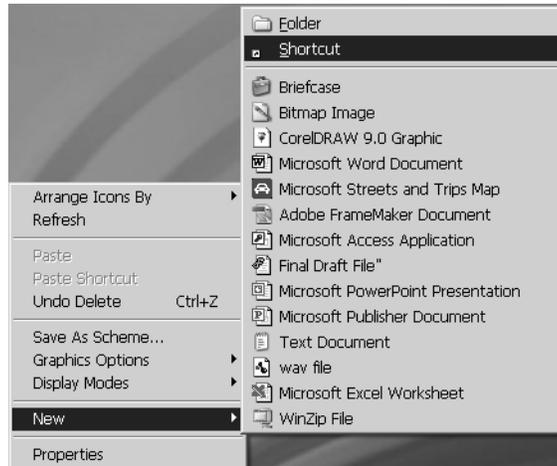

Figure 78: Creating a shortcut to the System Control Center
2. Right-click and select **New**→*Shortcut* as shown in Figure 78.